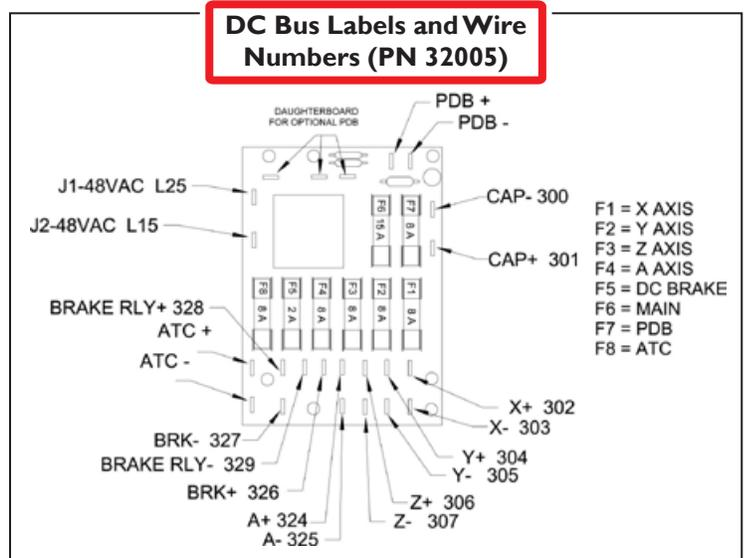
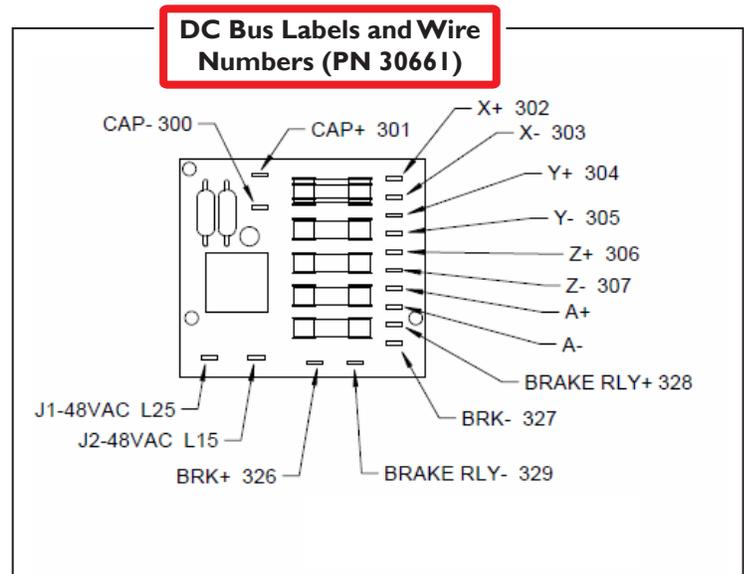

Figure 4
Figure 5
3. Transfer wires as shown in **Figure 4** for series 3 mills and **Figure 5** for series II mills. For now, leave wires 326-329 unconnected. These connections will be covered in the section five.
1. The series 3 upgrade kit for mills serial numbers 001-999 comes with three pre-labeled wires: 326, 328, and 329. Connect the spade terminal ends of #328 and #329 to the DC bus board. #328 should be connected to "BRAKE RLY +" and #329 should be connected to "BRAKE RLY -" (see Figure 4).